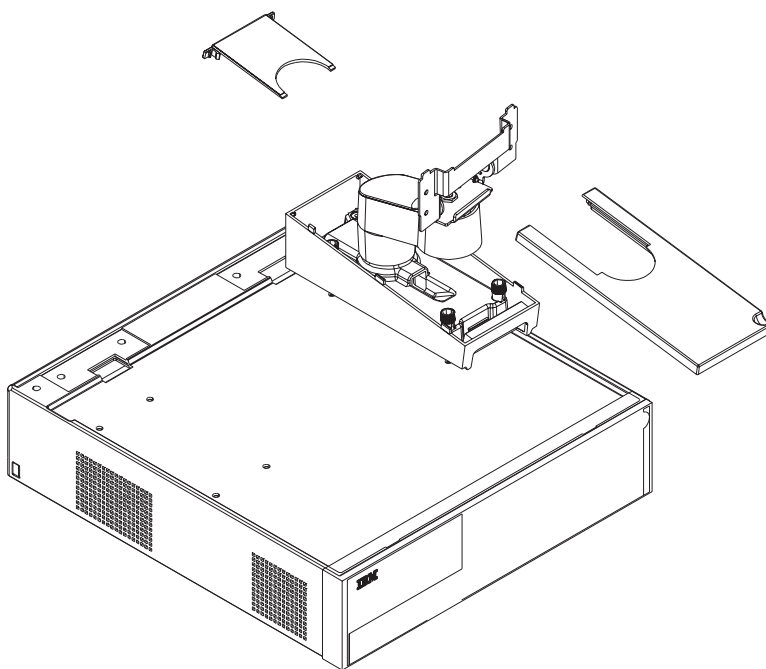

Figure 41. Securing the arm assembly to the SurePOS 720, 740, 780
7. Place the filler panel covers on the arm assembly as shown in Figure 41.